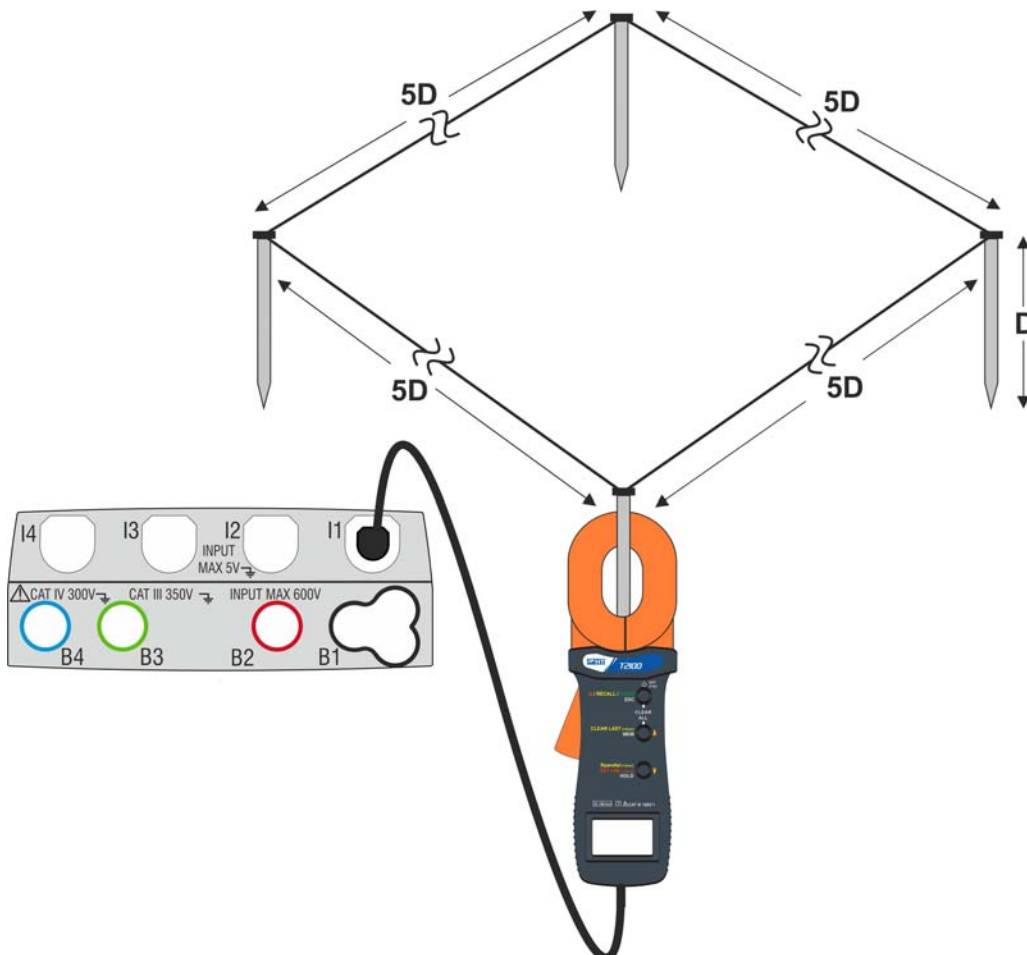

Fig. 31: Resistance measurement of single rods with clamp T2100
The measurement carried out by clamp T2100 can be used to evaluate single rods resistance values within an earth installation without disconnecting the rods, **assuming they do not affect each other** (see Fig. 31).
4. Connect the clamp to the first rod of the earth network considered as shown in Fig. 31. Note the value of the resistance in the R field and press the icon to insert this value in the calculation of parallel resistance and increase the N parameter by one unit ($N = 1$)